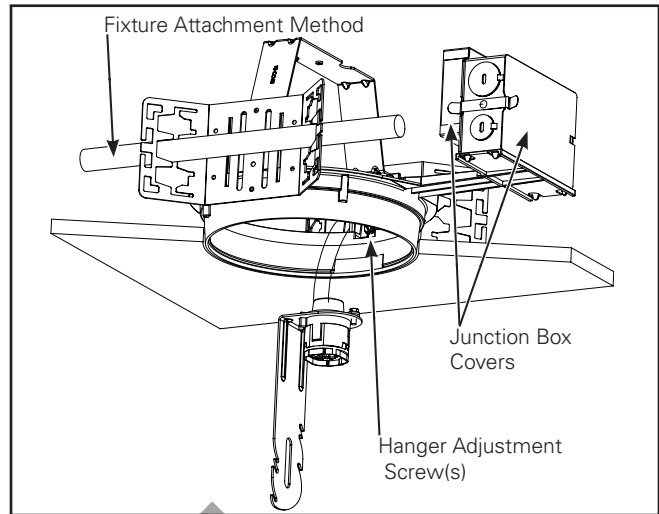

Figure 2.
- Adjust hanger adjustment screws so bottom of plaster ring is flush with finished ceiling line. Hanger bracket is reversible for total adjustment of 5" (Figure 2.)